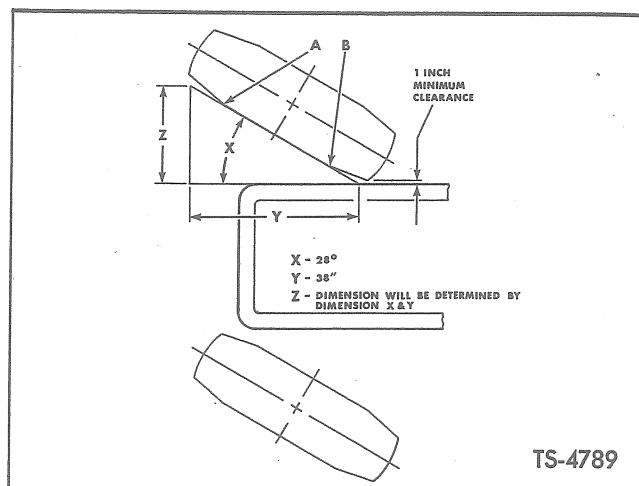

Fig. 36. Check Steering Stops
3. Continue to hold wheels in full right turn position and insert template between tire and machine frame as shown in Figure 36.